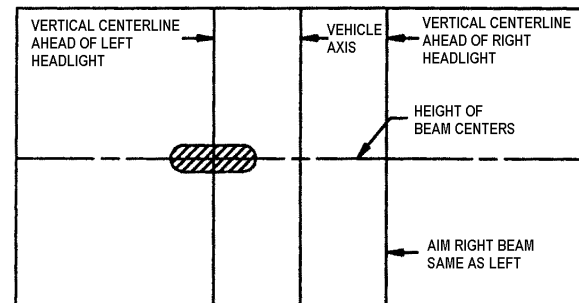

FIGURE 51: UPPER BEAM HIGH-INTENSITY ZONE PROPER LOCATION ON SCREEN
- High beam headlights are aimed so that the center of the high-intensity zone is located at the horizontal and straight ahead vertically (Figure 51).